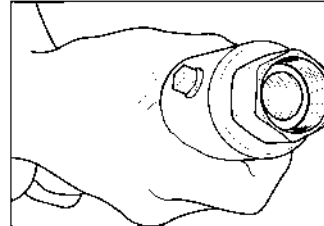

Figure: 4-54
- Holding the black coupling, slide fitting up to capture split rings into nut. Be sure split rings slip all the way to the base of the internal threads. Assembly is now ready to be attached to the adapter on the equipment. Figure: 4-54